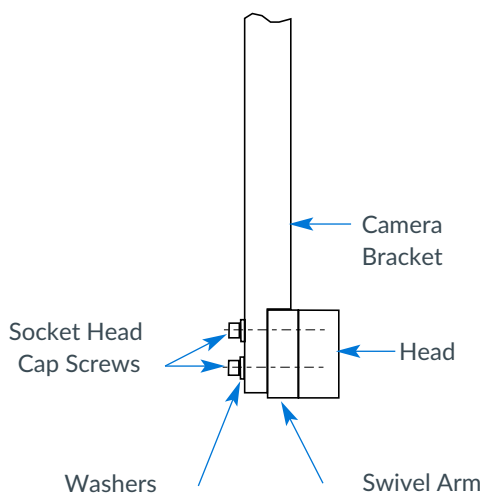

Fig. 7
1. Mount Camera Bracket as shown in Fig. 6 and Fig. 7